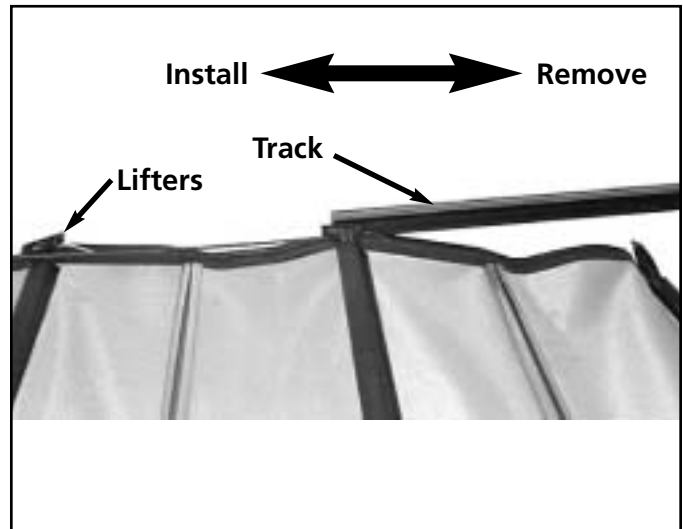

Figure S-6
6. Slide the trolley and cable into the track and slide the track forward over the lifters onto the front rail. See figure S-6.